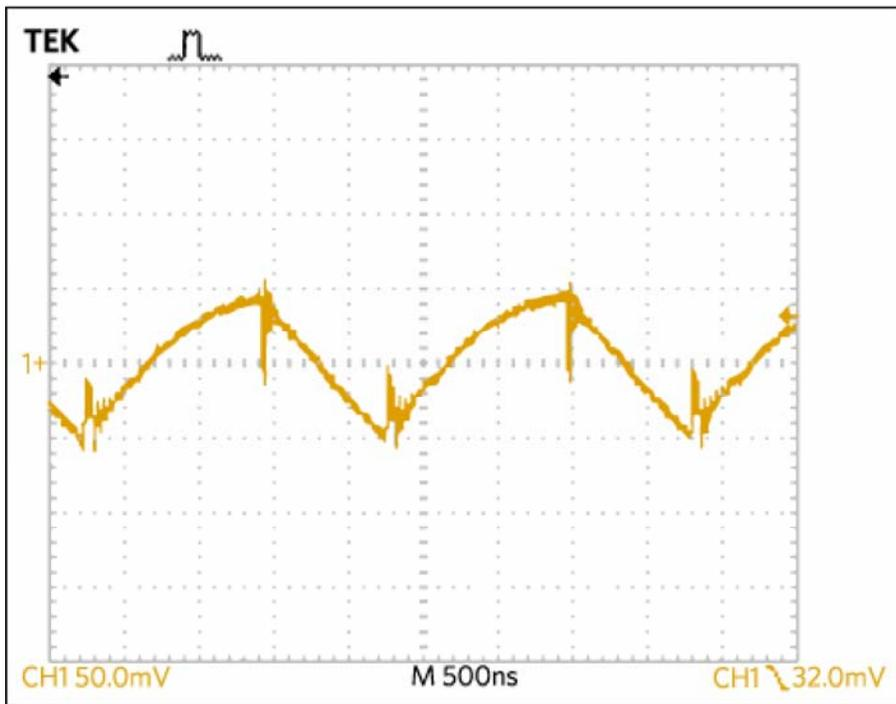

Figure 3. Output ripple at 800mA load, 12Vout.
**Figure 3** display the output ripple at full load (ripple + spike is  $110mV_{P-P}$ ) when the input is 24V.